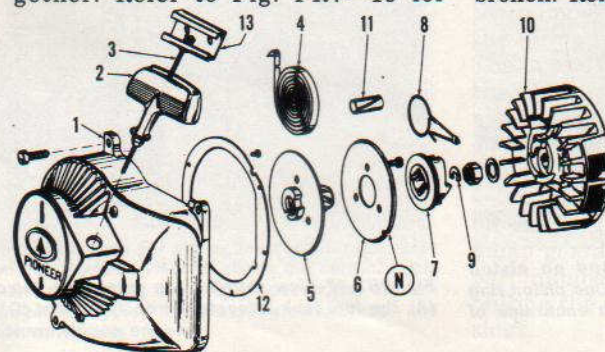

Fig. PR7-24—Exploded view of the rewind starter used.
**REWIND STARTER.** The starter pinion (7—Fig. PR7-24) moves in to engage the lugs on the flywheel (10).